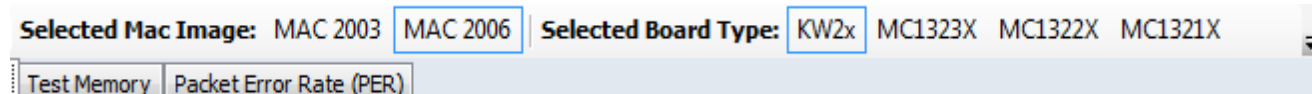

Figure 7-3. Radio Test Bar
3. Select the MAC image the boards are running with and the board type from the “Radio Test” bar Figure 7-3.